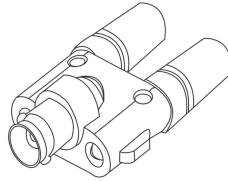

Figure 3 BNC-male-to-dual binding post
- ✧ Connects the probe output to BNC-female- to- dual binding post (as shown in Figure 3), and plug into the two inputs of the digital multimeter.